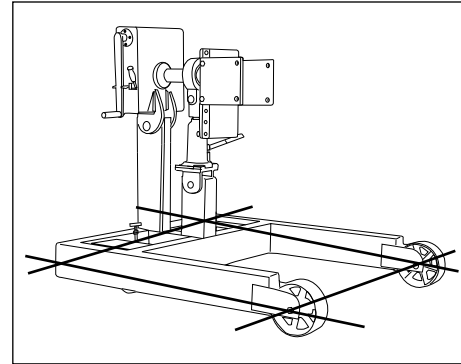

Figure 2
**⚠ WARNING:** *Always* verify that the product and the application are compatible. **Never** load the engine stand with an engine that extends beyond an imaginary boundary drawn by connecting the centers of the front and rear wheel/caster axles as show in Figure 2.